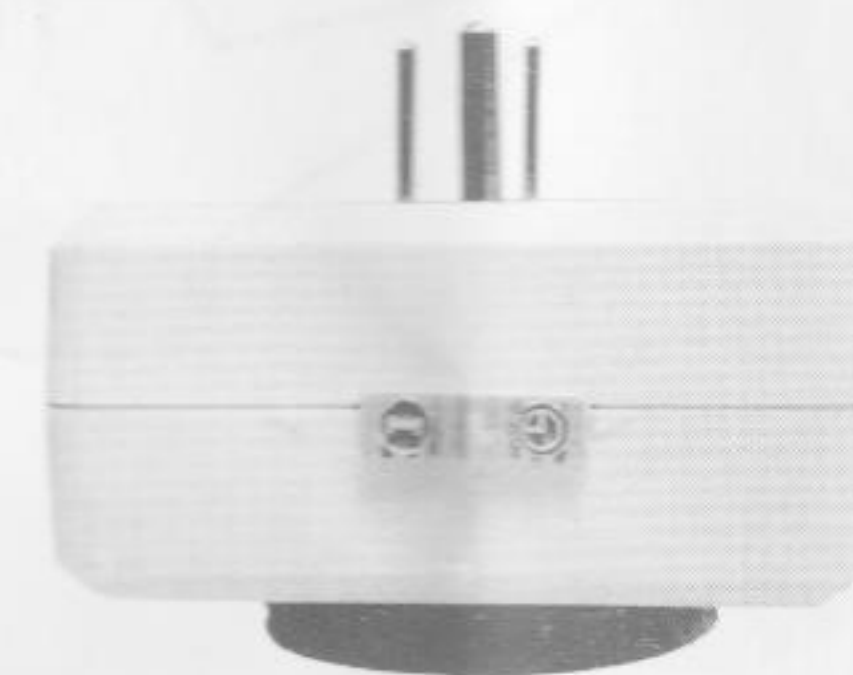

fig. 2
Step 2: Slide the side switch to the right ☉ icon (see fig. 2)